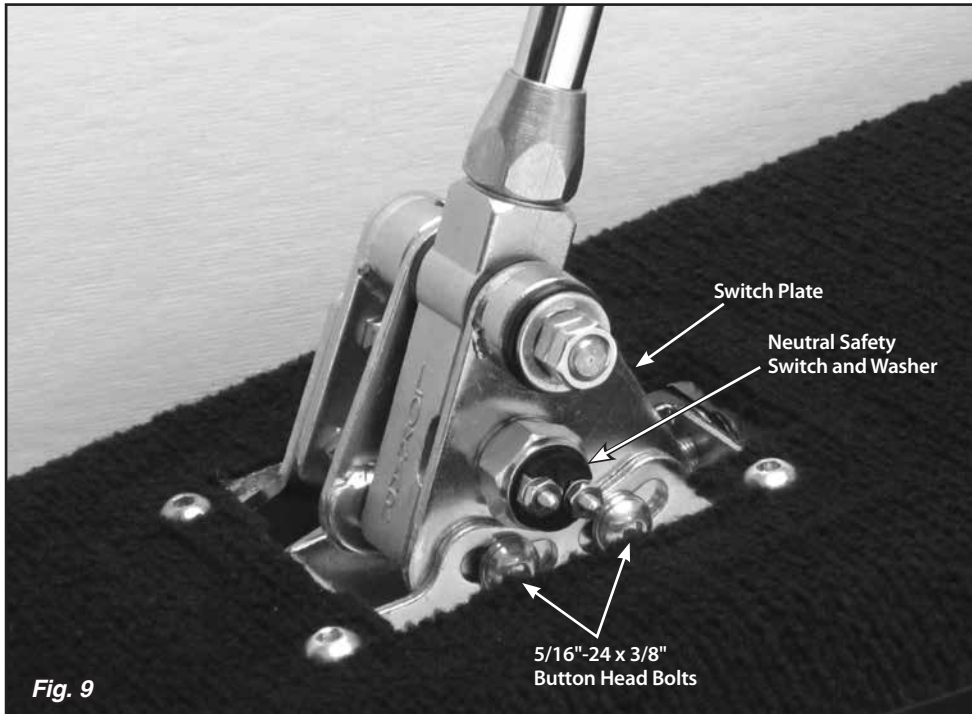

Fig. 9
Step 14: Remove the neutral safety switch and washer (**Fig. 9**) from the right side of the Shifter using a 7/8" wrench or socket.
Step 15: Loosen, but do not remove, the two 5/16"-24 x 3/8" button head bolts that attach the right side of the floor mount mounting bracket to the switch plate (the bolts are in curved, slotted holes). **Fig. 9**